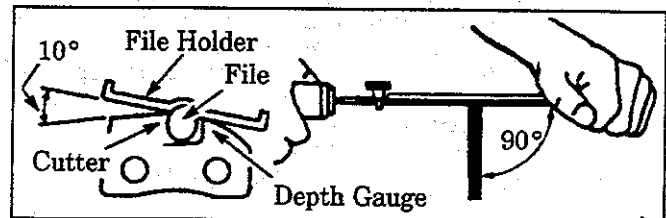

Figure 28
- a.) Position the file holder at a 10° angle on the top plate of the cutter and depth gauge. Figure 28.